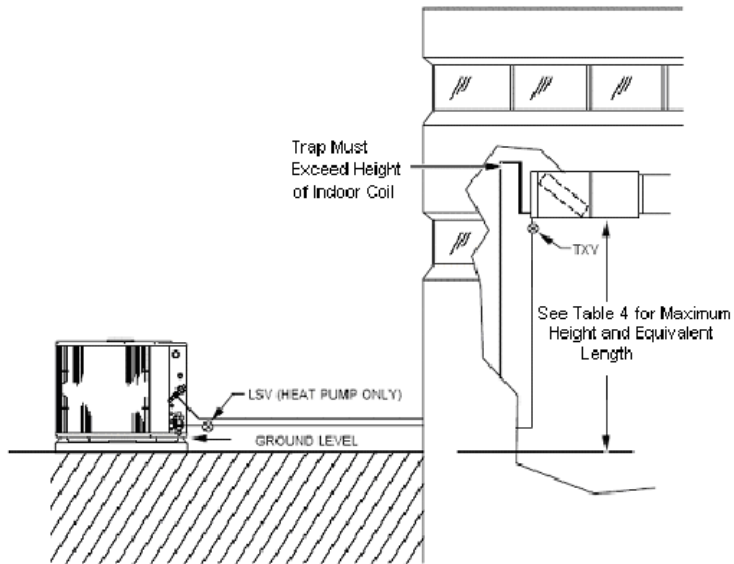

Fig. 3 – R-22 System Outdoor Unit Below Indoor Unit
- Vertical separation must be 20 ft. or less. If greater than 20 ft., see Fig. 3 or 4.
- An inverted vapor-line trap must be installed at indoor unit. The top peak of trap must be greater than height of indoor coil. See Fig. 3.